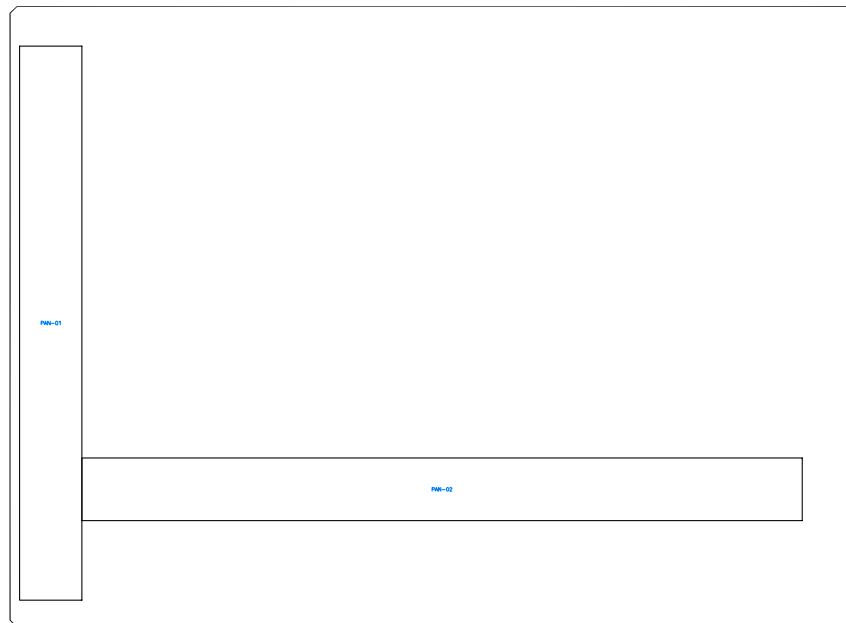

Figure P2-3 PAN-02 DIN Rail inserted in the drawing
21. Choose the **OK** button in this dialog box; the PAN-02 DIN Rail is inserted in the drawing, as shown in Figure P2-3.